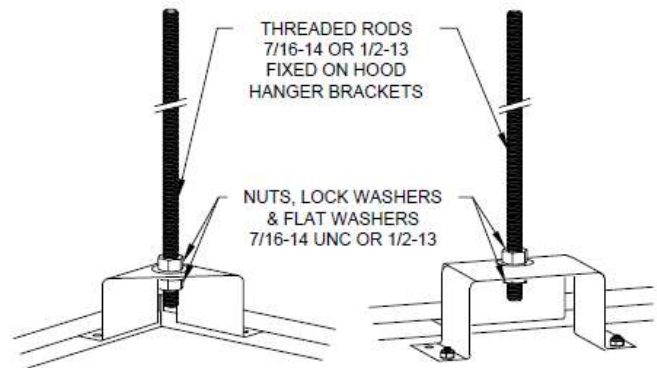

FIGURE 2 - Hood Hanger Brackets
- 1- Install threaded rods between the ceiling and the hood supports, and assemble washer, lock washer and nut on threaded rods over and under the supports (see **FIGURE 2**). Use 7/16-14 UNC or 1/2-13 UNC hardware.